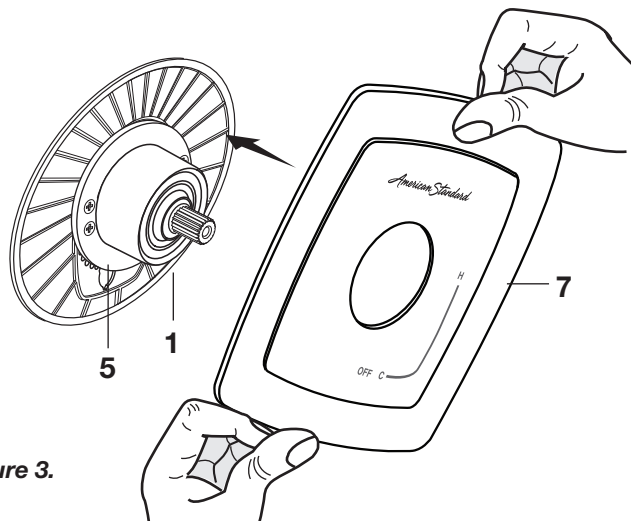

Figure 3.
- **Figure 3.** Install ESCUTCHEON (7) onto CAP (1) and push flush against finished wall. ESCUTCHEON (7) will snap fit onto ESCUTCHEON SUPPORT (5).